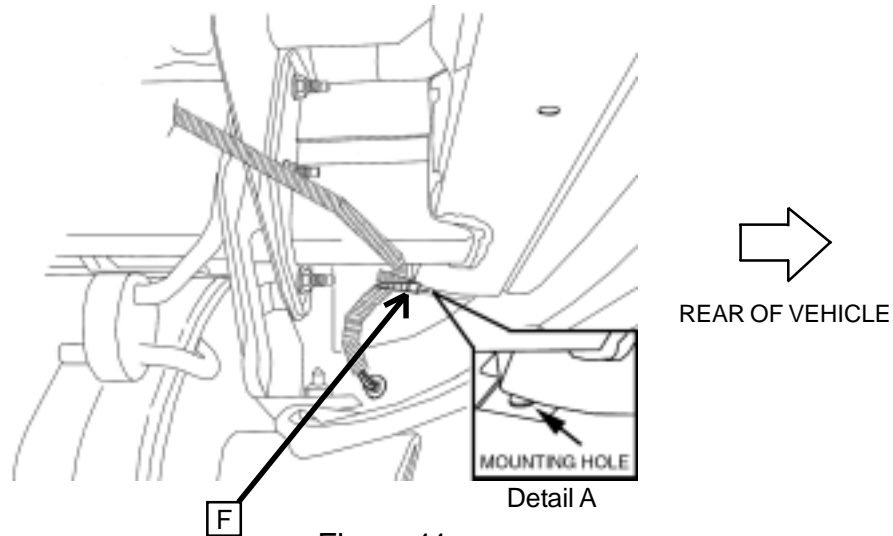

Figure 11.
- 6.) While removing cable slack, wrap one cable tie **F** through the mounting hole at the end of the bumper beam shown in Detail A of Figure 11 and around the sensor cable marked "R" then tighten.